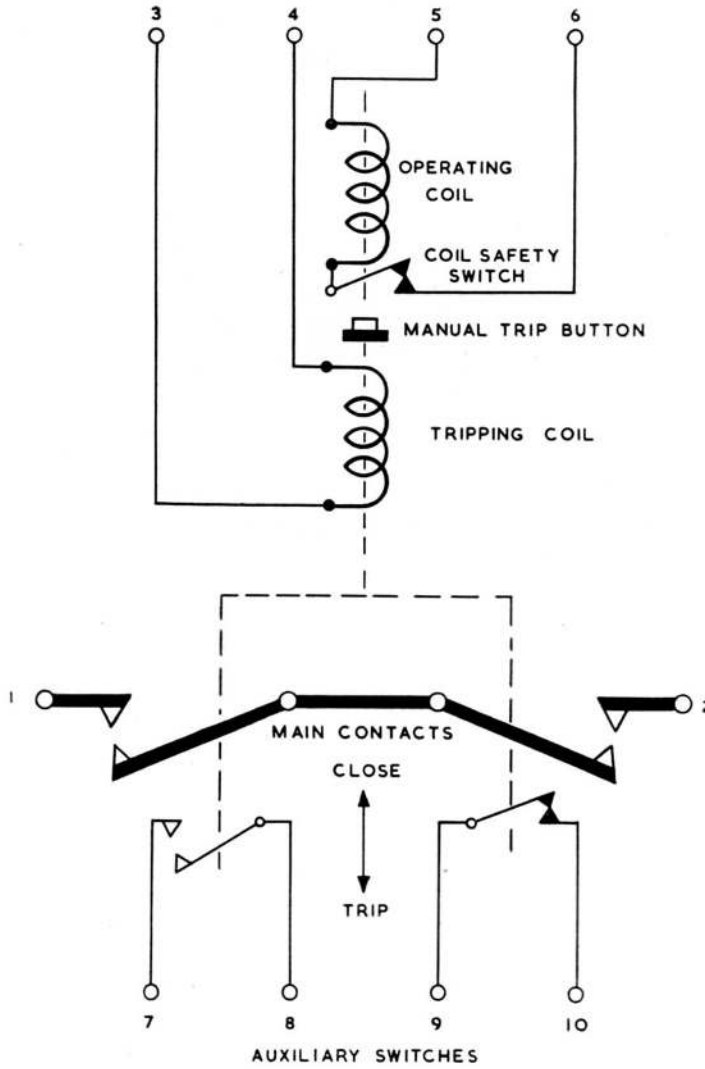

Fig. 3. Diagram of internal connections
5. Measure the resistance of each coil between the appropriate terminals on the four-way terminal block (fig. 3). When corrected to an ambient temperature of 20 deg. C, the resistance of the operating coil should be $3.7 \text{ ohm} \pm 5 \text{ per cent}$ and the resistance of the tripping coil should be $36 \text{ ohm} \pm 5 \text{ per cent}$.